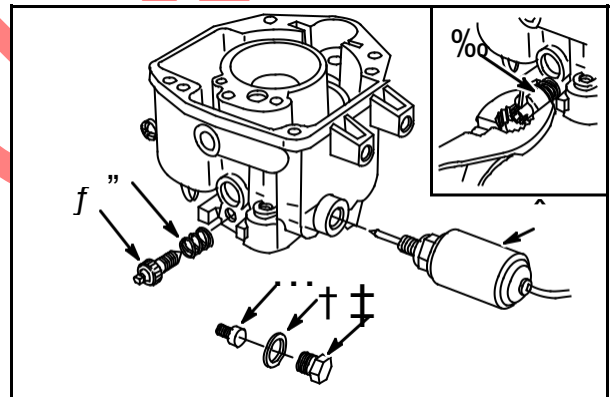

Fig. 80
If idle mixture screw is equipped with adjustment limiter cap (9), use a pliers to remove it before removing idle mixture screw (inset), **Fig. 80**.
Remove idle mixture screw (3) and spring (4), **Fig. 80**.